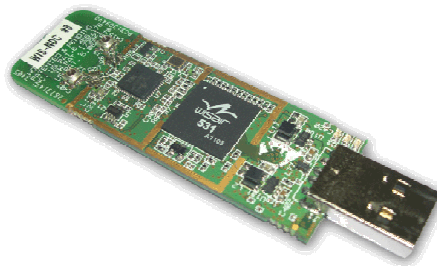

Figure 1: USB Dongle
- § USB Dongle—A USB PC dongle, shown below in **Figure 1: USB Dongle**. The dongle is plugged directly to a PC USB port or to a USB hub host port. The dongle is powered by the USB port and contains an on-board omni-directional antenna.